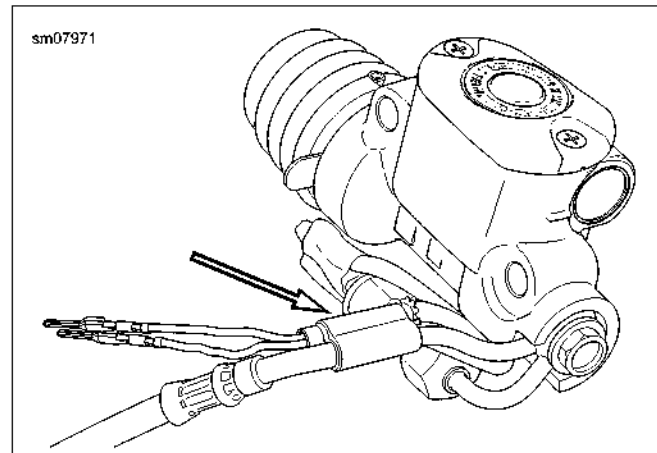

Figure 6-81. Switch Wire Routing Conduit
2. See Figure 6-81. Route wire harness: